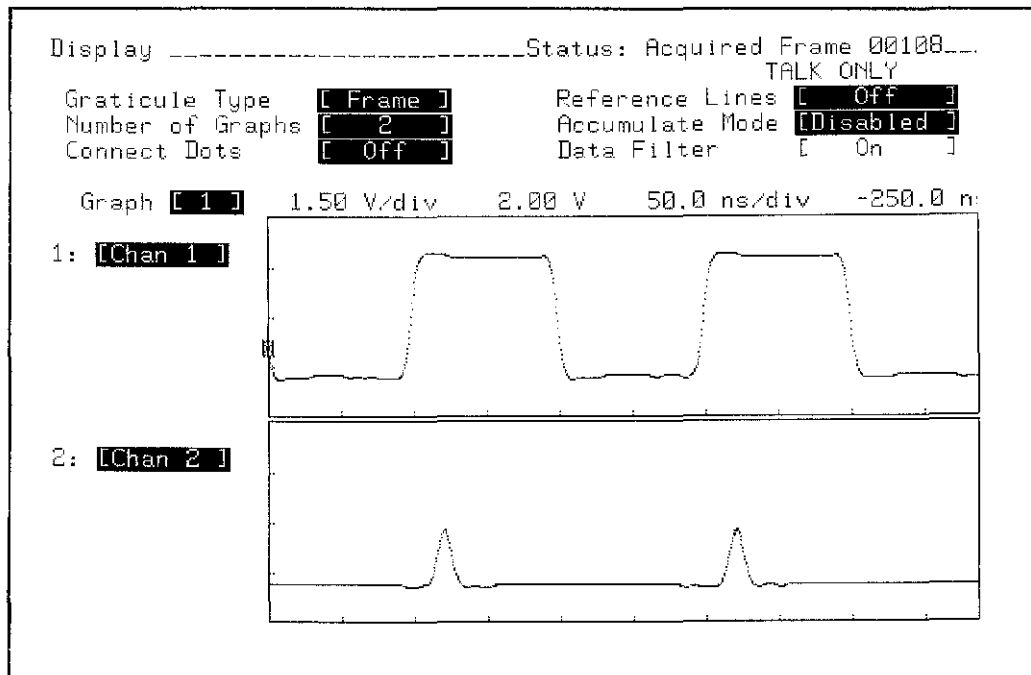

Figure 3-22. Minimum Setup Time Waveforms
13. Exchange the BNC cables connected to Channel 2 and External Trigger inputs. The display should appear similar to figure 3-22.